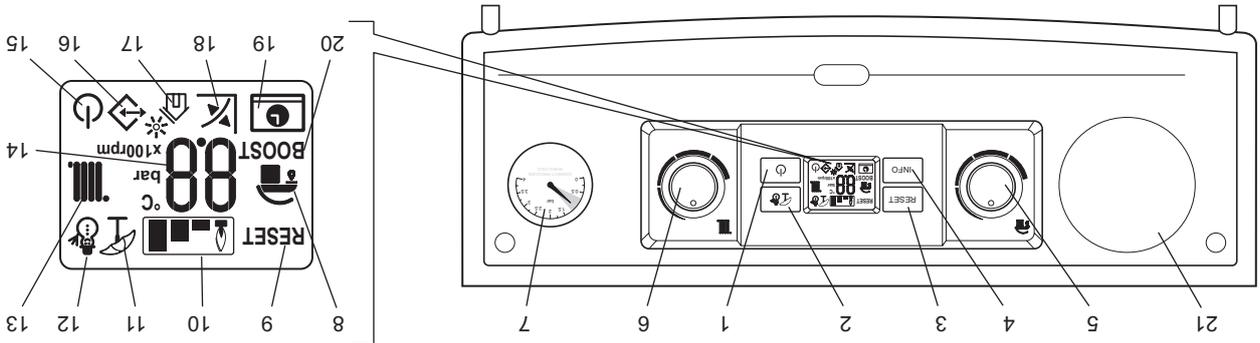

Fig. 1
On - In this mode the boiler can be switched between 'Summer' or 'Winter' settings by pressing the Summer/Winter button (item 2 in Fig. 1).
To fill or pressurise the system open one tap fully by turning it 90° anticlockwise in line with the tap housing. The second tap should be opened a quarter of a turn and the water will start to refill the system (water should be heard filling the system). You should see the pressure gauge (item 7 in Fig. 1) rise back up into the green area on the pressure gauge between 1 bar and 1.5 bar pressure.
The temperature of the hot water to the taps can be adjusted by turning the hot water selector switch (item 5 in Fig. 1) to the required value shown on the display in °C.
The temperature of the central heating water can be adjusted by turning the central heating selector switch (item 6 in Fig. 1). When the heating is on the temperature of the water leaving the boiler to the radiators will be displayed.
If an external weather compensation probe is fitted, indicated by the symbol (item 18 in Fig. 1) in the display, it will automatically vary the temperature of the water in the radiators and on mild day the radiators will not feel as hot as on a cold day, this is normal and not a fault with the boiler or heating circuit. The room temperature will still be maintained as set by the room thermostat.
When an external weather probe is fitted, the central heating selector switch (item 6 in Fig. 1) will no longer adjust the flow temperature in °C, instead the display will show a scale of 1 to 9. Each number corresponds to a line on the graph in Fig 2 i.e. line 6 will give a flow temperature of 60°C when the external temperature is 10°C.
By pressing the On-Off button (item 1 in Fig. 1) the Standby or On mode can be selected, or press and hold the On-Off button for eight seconds to turn the boiler off.
Note: It is important to allow this purging operation to function when the boiler has been initially installed to remove all the air installer then this operation can be terminated by pressing the reset button (item 3 in Fig. 1).
Make sure the heating system is filled and the needle on the pressure gauge (item 7 in Fig. 1) is in the green band. If